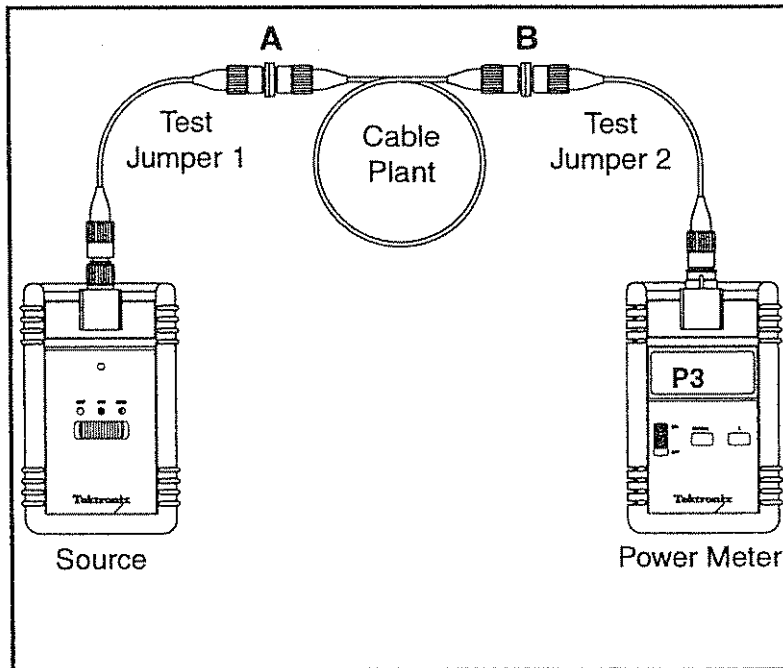

Fig 4.5 Forward Link Connection
B) Connect the TOP laser source and power meter to their respective patch panel ports using the test jumpers per Figure 4.5.